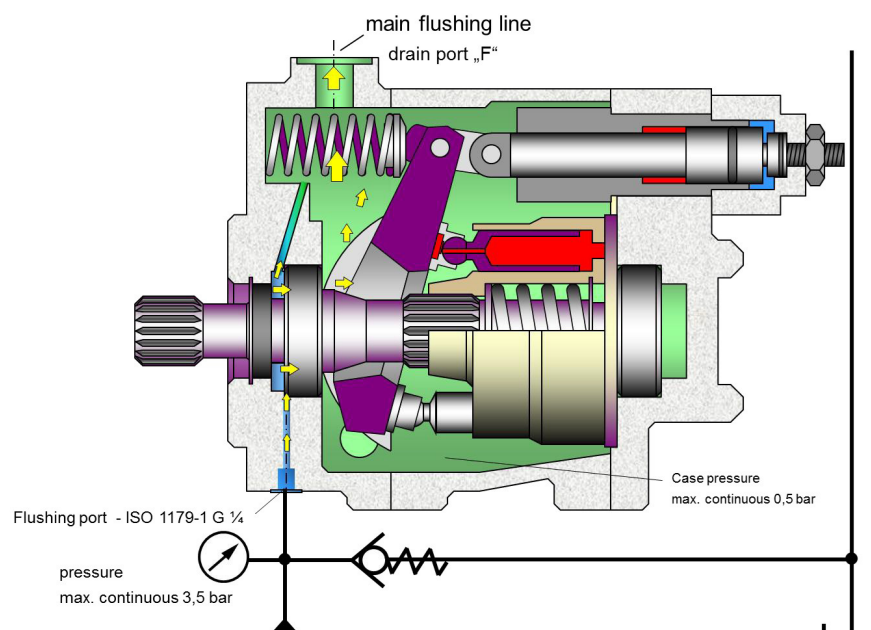

Figure 2
- If bearing flushing is required, please refer to the figure 2 for pipeline configuration: